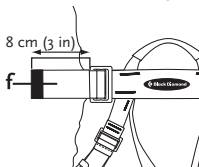

Figure 4
4. At least 8 cm (3 in) of webbing tail must extend from the waistbelt buckle (figure 4) after it has been adjusted correctly.